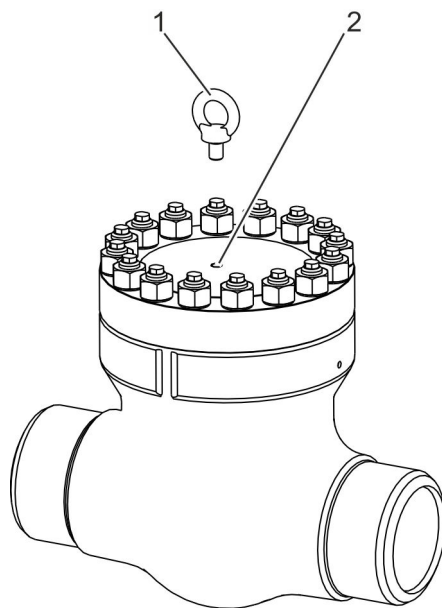

Fig. 12: Attaching the ring bolt
1. ➤ Insert the supplied ring bolt (Fig. 12/1) into the thread opening (Fig. 12/2) of the body cover.
2. ➤ Make sure that the thread of the ring bolt (Fig. 12/1) is fully inserted into the body cover.
3. ➤ Fasten the ring bolt (Fig. 12/1) to the hoist with suitable sling gear.